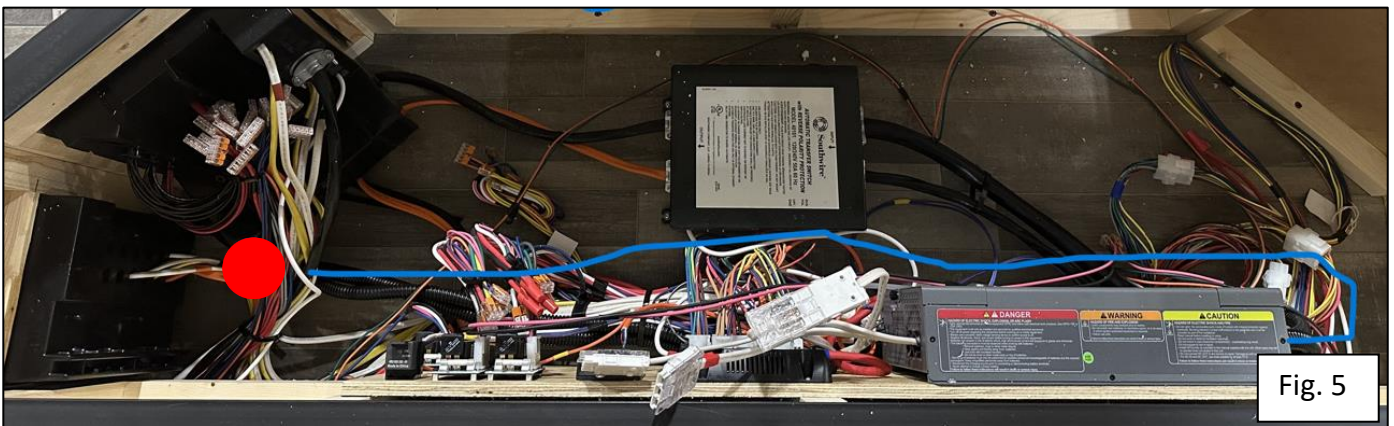

Fig. 5
5. Drill a 2" hole through the floor between the two load centers. (Fig. 5)